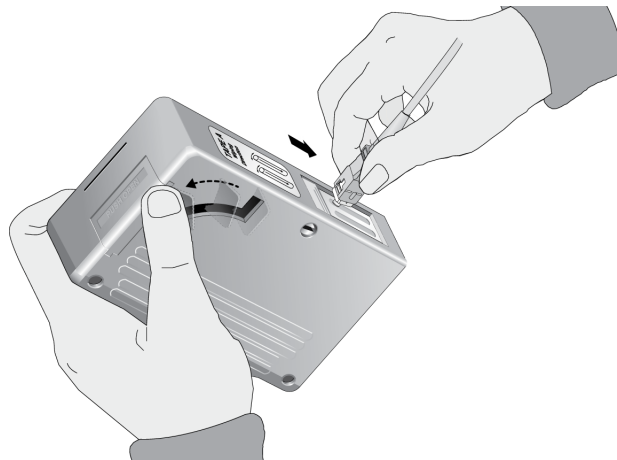

Figure 64. Rubbing the Ferrule Tip on the Cleaning Surface
2. Place the ferrule tip on the exposed cleaning surface and rub the ferrule in a downward direction, as shown in Figure 64.
1. Insert the swab into the adapter as shown in Figure 64 and rub the ferrule tip with the swab.